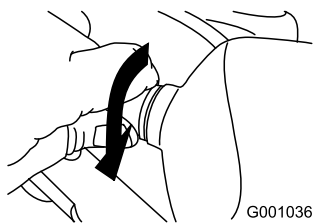

Figure 59
5. Turn the base of the bulb clockwise until it is snug (Figure 59).